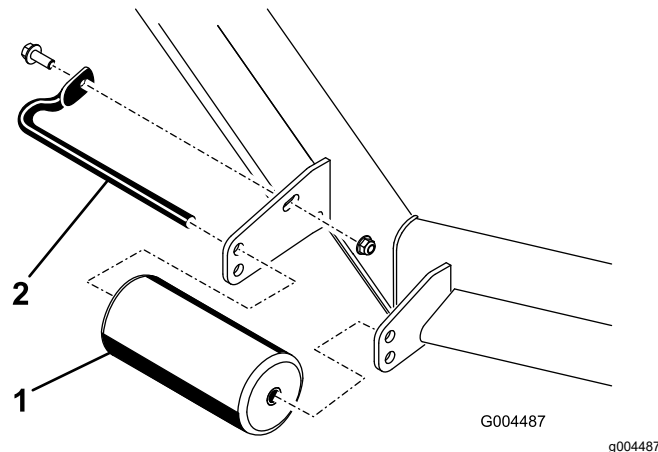

Figure 7
4. Remove the fasteners securing each roller on your mower and move the rollers up or down as desired (Figure 7).